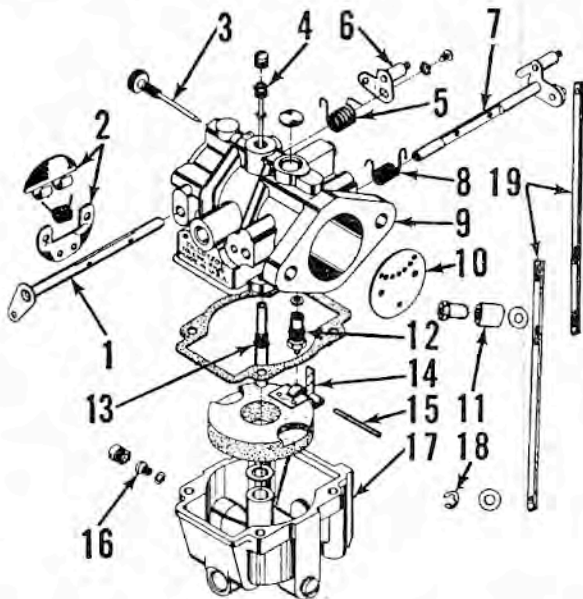
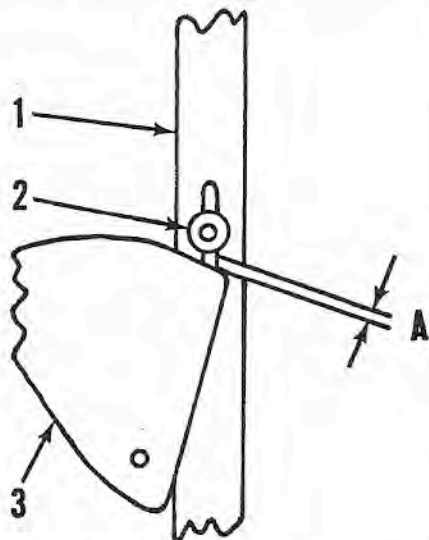

Fig. WB75 — Exploded view of Tillotson model OM carburetor and linkage used on Tiger Shark.
Fig. WB78—Schematic view of throttle control linkage. Refer to text for details of adjustment.
CARBURETOR. Tillotson, type OM carburetors are used. Refer to Fig. WB75. Nor-
Rotate tower shaft clockwise until follower roller (2—Fig. WB78) is centered on flat portion at forward end of quadrant (3) as shown. Loosen the two screws which
clamp the upper and lower throttle tie bars (19—Fig. WB75) and allow both the upper and lower carburetor throttle valves to close: Tighten the upper clamp screw; then adjust lower clamp screw until cam follower roller (2—Fig. WB78) has a clearance (A) of 0.020 between roller and quadrant (3).
Check the synchronization of the two carburetors as follows: Connect a tachometer to engine and operate at 1500 rpm in "Neutral" gear. While watching tachometer and counting the turns, fully close the idle adjustment needle on the upper carburetor. Note and record the engine speed with idle needle closed. Reset the upper carburetor idle adjustment needle and repeat the procedure with the lower carburetor. With idle adjustment needle closed, engine speed should be equal within 150 rpm for both carburetors. If it is not, loosen the screws clamping the throttle tie bars (19—Fig. WB75) together, and change the adjustment to slightly open the throttle valve on the slow carburetor. NOTE: Throttle must again be synchronized with tower shaft as shown in Fig. WB78.